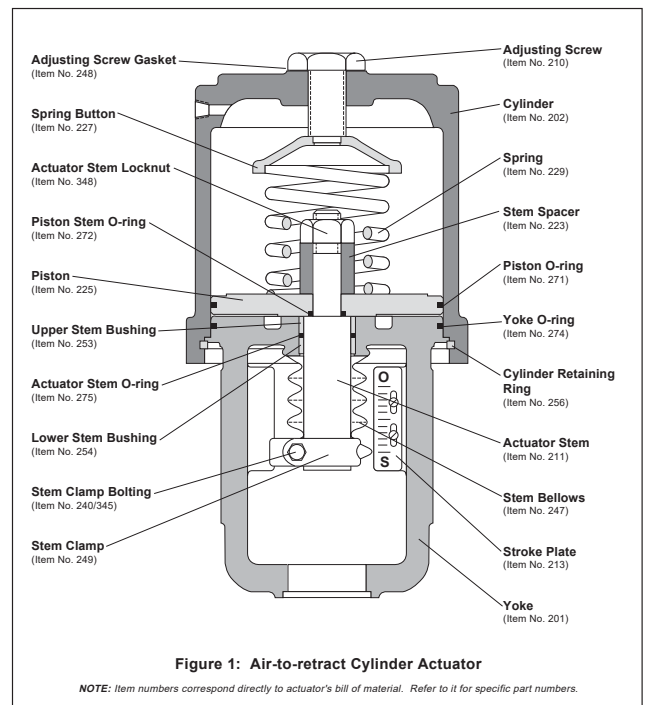

Figure 1: Air-to-retract Cylinder Actuator
Refer to Figures 1 through 5 to disassemble the cylinder actuator.
7. For air-to-retract configurations, remove the spring(s) and spring button for cleaning and inspection (see Figures 1, 3 and 5). Remove the actuator stem locknut and slide the piston and stem spacer off the actuator stem. The spring guide should be removed when using heavy-duty spring designs.
To reassemble the cylinder actuator, refer to Figures 1 through 5.
in the yoke until it bottoms out. Press the upper stem bushing into the bore until it is flush with the top of the yoke (refer to Figures 1 or 2).
5. Reassemble the piston, piston stem O-ring and stem spacer on the actuator stem according to the proper air-action (refer to either Figure 1 or 2). Replace the piston O-ring. Air-to-extend configurations require the spring button to be stored under actuator stem locknut. Tighten the locknut firmly.
To change the air action from air-to-retract to air-to-extend, or vice versa, refer to Figures 1, 2 or 5: